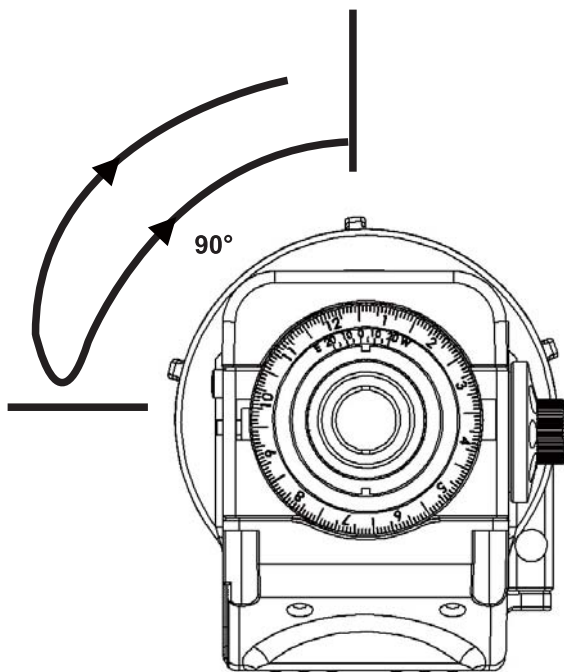

Fig 32
4. **Star Adventurer** will start to rotate counter-clockwise with a speed of 2 hour per revolution. When it reaches 90° it will start to rotate clockwise back to the starting point. It will repeat the swing within this 90° . (Fig 32). At the same time, it will start to control the camera by activating the camera shutter release function with an interval period of 2 seconds (as if you were pushing on the shutter release button of the camera during 2 seconds, and not pushing during 0.5 seconds and pushing again during 2 seconds etc.).
The Adjustable Wedge is a device to adjust the latitude for Polar Alignment. Rotate the Latitude Knob can adjust the latitude of the **Star Adventurer** which the Latitude Indicator indicates. The range is from 0° to 70°. The Horizontal Adjustment Knob can adjust the Wedge to rotate to right or left horizontally. The Horizontal bubble is to check if the base plate of the wedge is horizontal. The accuracy is 1°. When you install the **Mounting Plate** on the **Star Adventurer**, Make sure the **Stopper** is facing forward like the Fig 32 shown to avoid the equipments sliding down before you fasten the Locking Knob.